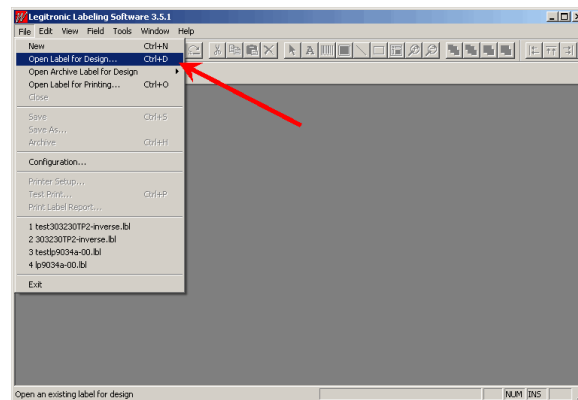

Figure 48
58. Click File ► Open Label for Design. (Figure 48)